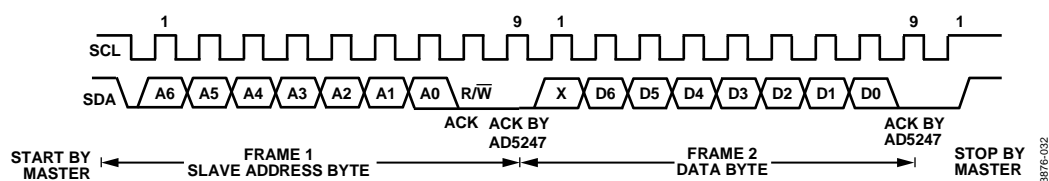
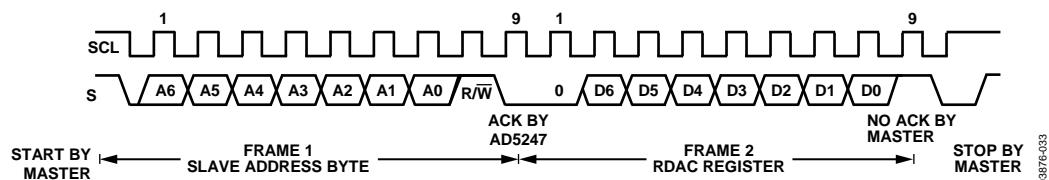

Figure 33. Writing to the RDAC Register
Figure 34. Reading from the RDAC Register
1. The master initiates a data transfer by establishing a start condition, which is when a high-to-low transition on the SDA line occurs while SCL is high (see Figure 33). The following byte is the slave address byte, consisting of the 7-bit slave address followed by an R/W bit (this bit determines whether data is read from or written to the slave device). The slave, whose address corresponds to the transmitted address, responds by pulling the SDA line low during the ninth clock pulse (this is termed the acknowledge bit). At this stage, all other devices on the bus remain idle while the selected device waits for data to be written to or read from its serial register. If the  $\overline{R/W}$  bit is high, the master reads from the slave device. If the  $\overline{R/W}$  bit is low, the master writes to the slave device.
2. In write mode, after acknowledgement of the slave address byte, the next byte is the data byte. Data is transmitted over the serial bus in sequences of nine clock pulses (eight data bits followed by an acknowledge bit). The transitions on the SDA line must occur during the low period of SCL and remain stable during the high period of SCL (see Figure 33).
3. In read mode, after acknowledgment of the slave address byte, data is received over the serial bus in sequences of nine clock pulses (a slight difference from write mode, where eight data bits are followed by an acknowledge bit). Similarly, the transitions on the SDA line must occur during the low period of SCL and remain stable during the high period of SCL (see Figure 34).
4. When all data bits have been read or written, a stop condition is established by the master. A stop condition is defined as a low-to-high transition on the SDA line while SCL is high. In write mode, the master pulls the SDA line high during the 10th clock pulse to establish a stop condition (see Figure 33). In read mode, the master issues a no acknowledge for the ninth clock pulse (that is, the SDA line remains high). The master then brings the SDA line low before the 10th clock pulse, which goes high to establish a stop condition (see Figure 34).